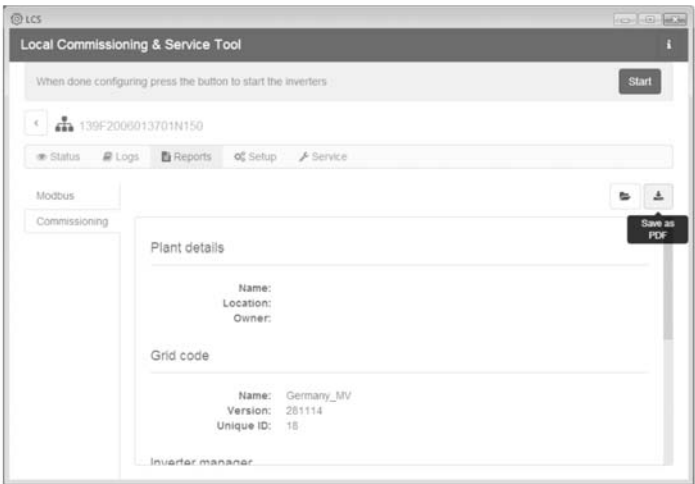

Figure 5.9 LCS tool - commissioning report
- 13. During commissioning it is possible to download a commissioning report in the **Reports** menu. The report contains information about inverter settings, including actual disconnection values for each inverter. See figure 5.9.